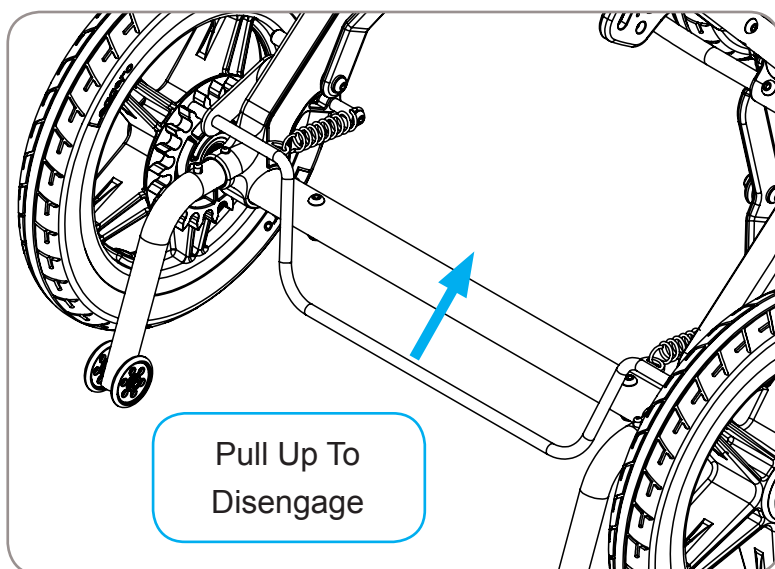

Figure 4
3. To disengage wheel locks, pull crossbar up with foot. Reference Figure 4.